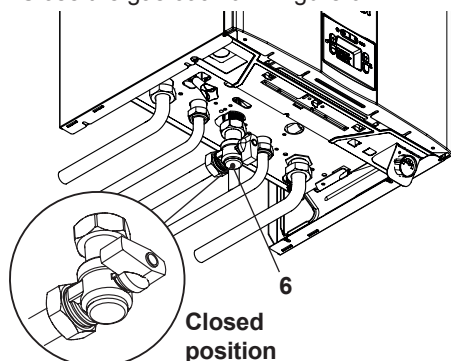

Figure 6.2
- Close the gas cock 6 in Figure 6.2.